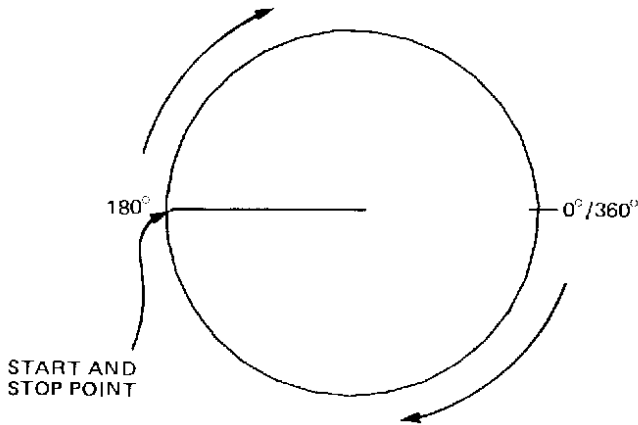

Figure 6-4. Start Angle 180°
**Result**            A circle with a radius of 256 plotter units is drawn in a clockwise direction. As a start angle of 180° is given, the current pen position, which had been the 0° point of origin when no start angle was given, now becomes the 180° point of origin. The clockwise plot is from 180° through 0°/360° back to the 180° point of origin (see Figure 6-4). The actual plot is shown in Detail B, Figure 6-22.